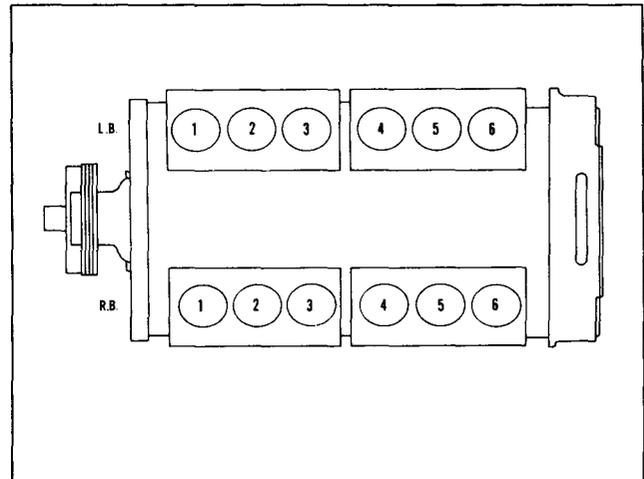

Fig. 2-47, (V414231). V-1710 piston position
- For the firing order see Table 2-14 for Inline Engines and Table 2-15 and Fig. 2-47 for V-1710 Engines.